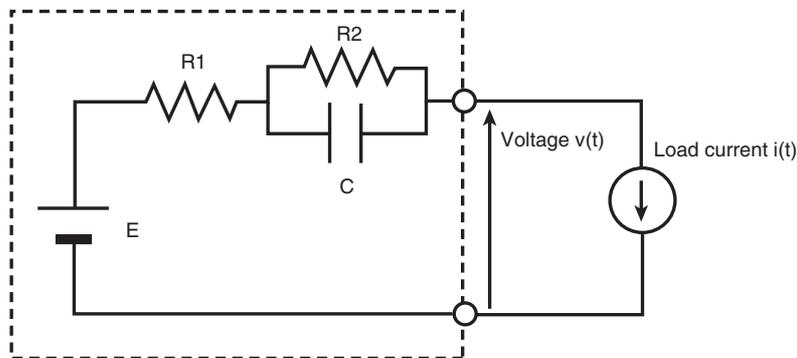
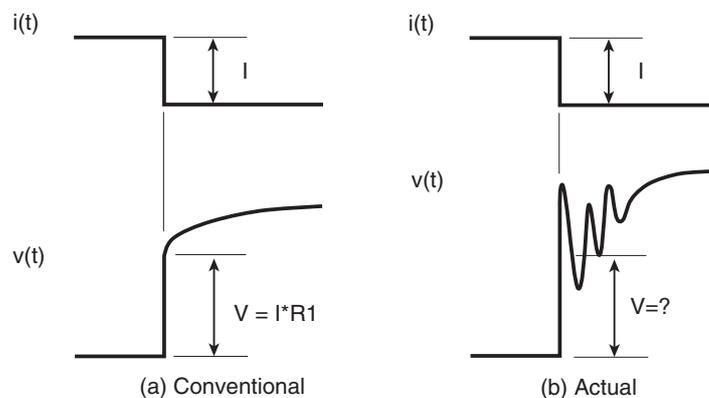

Fig. A-18 The simplest equivalent circuit of a fuel cell
Fig. A-19 Conventional and actual interrupt current waveform
Fuel cells operate as batteries by the chemical reaction that takes place at the boundary face of the electrode and electrolyte. This reaction can be represented as an equivalent circuit. There are many equivalent circuits that have been devised, but the circuit shown in Fig. A-18 is often used. Here, R_1 is the ohmic resistance of the electrochemical/electrical circuit, R_2 is the resistance to charge transfer at the electrolyte/electrode interface, and C is called the electric double layer capacitance. In the explanation below, we assume that the characteristics of the fuel cell can be represented by this equivalent circuit.
In the current interrupt method, the load current $i(t)$ of Fig. A-18 is varied in a step pattern shown in Fig. A-19, and the ratio of the amount of change at the section where the waveform of the voltage across the output terminals of the fuel cell $v(t)$ jumps abruptly (the V section in Fig. A-19) versus the amount of change of current at the corresponding point is determined. This value is assumed to be the ohmic resistance of the electrochemical/electrical circuit R_1 .
However, in the actual measurement, if load current $i(t)$ is varied as shown in Fig. A-19 (a), the voltage response across the output terminals is as shown in Fig. A-19 (b) in most cases due to various effects such as the wire inductance.
Because the amount of change where the voltage response jumps (the V section in Fig. A-19 (b)) is unclear in this condition, the determination of ohmic resistance of the electrochemical/electrical circuit R1 from the ratio against the amount of change of current is difficult.
- In the current interrupt method, the section where the voltage jumps can be read more clearly as the speed of the current interrupt is made faster (the time until the current is cut off is shortened). However, in reality, the voltage waveform is distorted as shown in Fig. A-19 (b) due to the wire inductance.
- In this case, the waveform distortion is decreased as shown in Fig. A-19 (a). But because the change is gradual, the section where the voltage jumps becomes unclear. If the ohmic resistance of the electrochemical/electrical circuit is determined in this condition, the value ends up being different from the value when the transition speed is fast.
The current interrupt method adopted by the KFM2150 varies the current in a ramp pattern to $I = PD$ over time (PT1) and estimates ohmic resistance of the electrochemical/electrical circuit R_1 from the transient response of the voltage. The reason for employing such method is to perform measurements by suppressing the ringing in the voltage response as shown in Fig. A-19 (b).